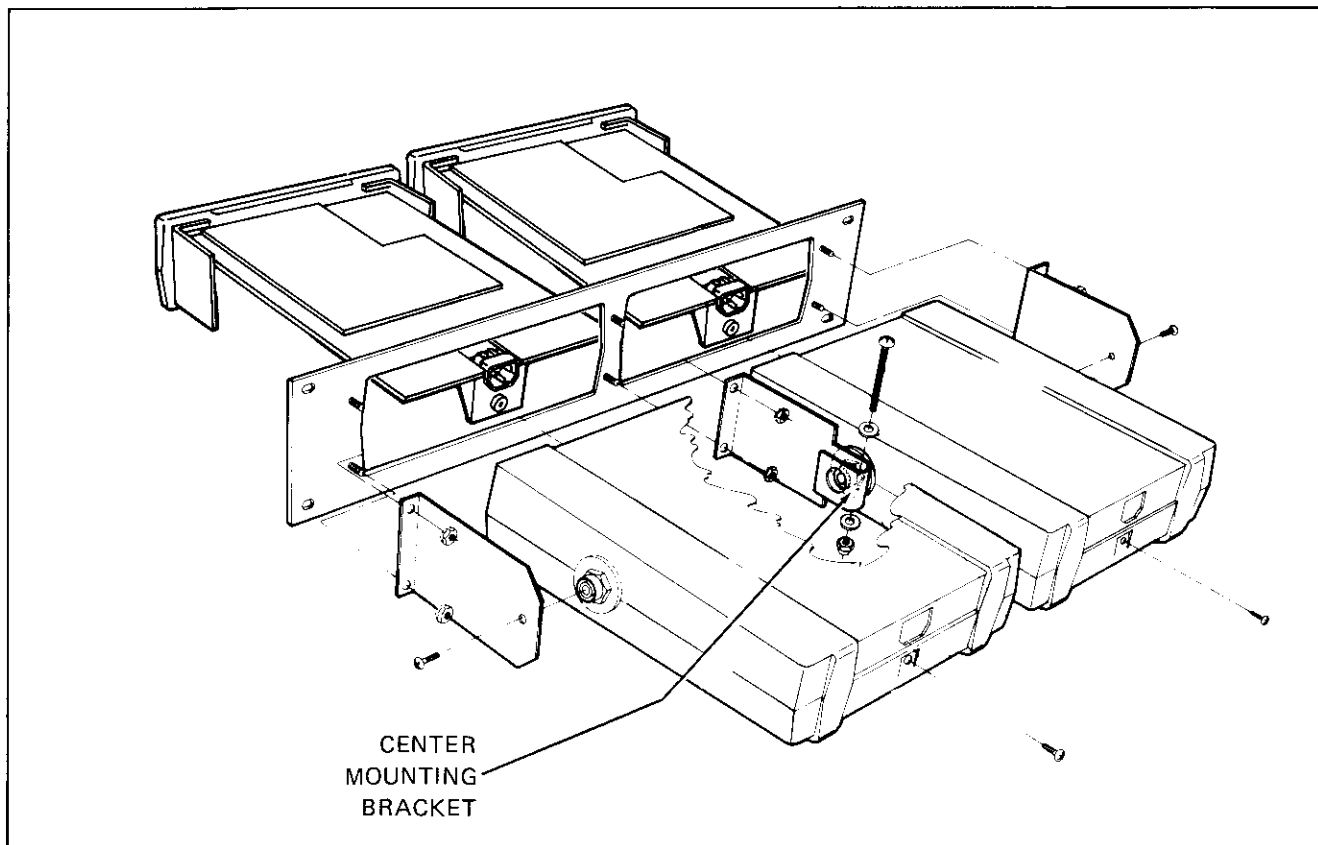

Figure 600-4. Rack Mounting Kit, Side-by-Side Mounting
3. Install the center mounting bracket, as shown in Figure 600-4, and secure it to the mounting panel using the nuts provided.